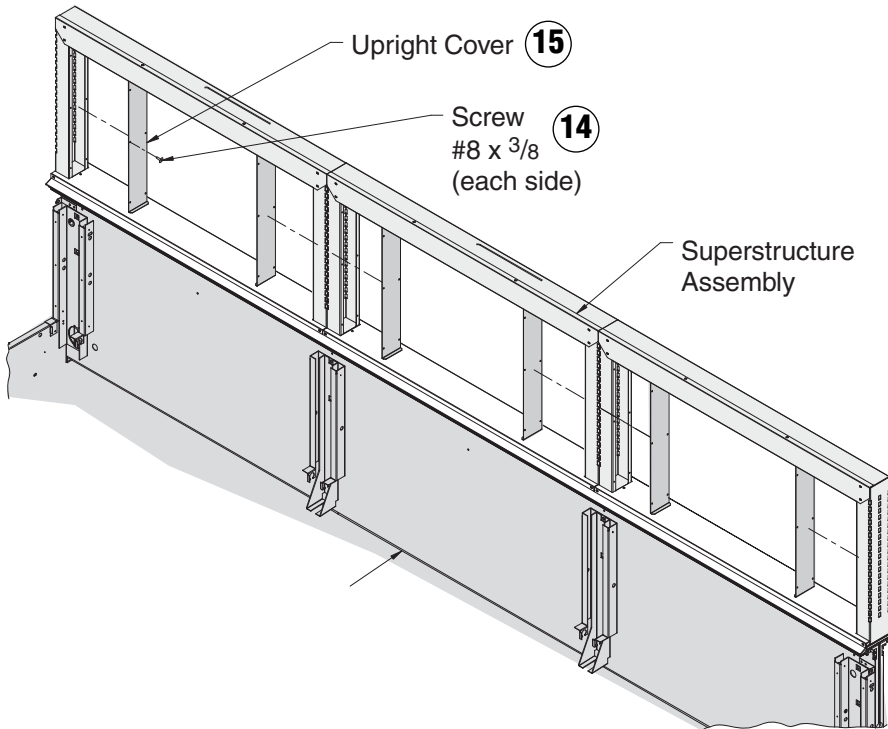

Figure 20 — Install Upright Covers
11. Install an *Upright Cover* on each side of the superstructure uprights as shown in Figure 20. Fasten with $\frac{3}{8}$ -inch #8-18 *Truss Head Sheetmetal Screws*.